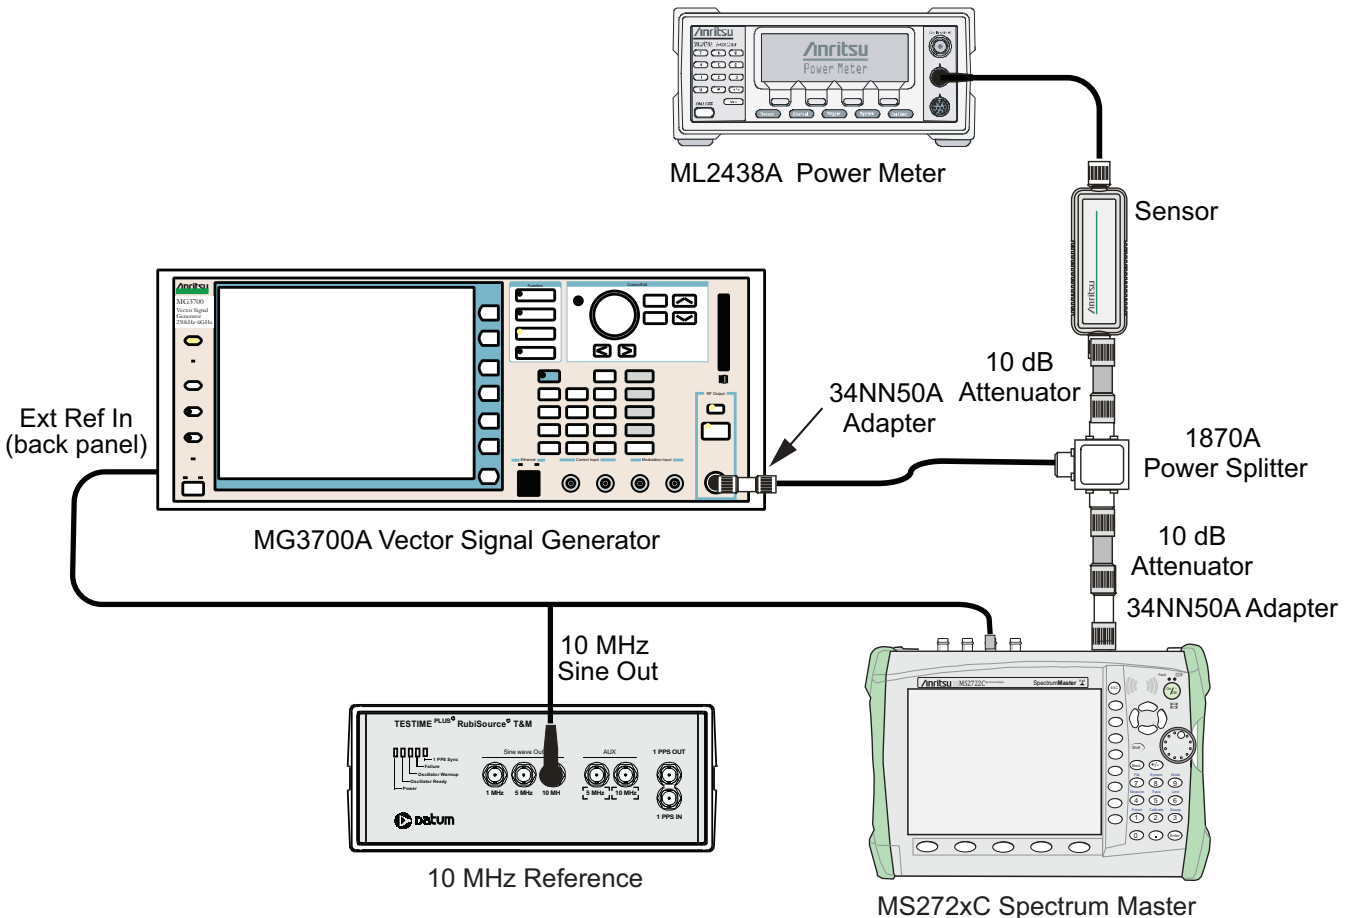

Figure 3-6. WCDMA Occupied Bandwidth, Test Setup
3. Connect the MG3700A, splitter, attenuator, power meter, and sensor as shown in Figure 3-6.
4. Press the **On/Off** key to turn on the MS272xC and wait until the measurement display appears. Then press the **Shift** key then press the **Mode** (9) key to activate the mode selection menu.
6. Press the **Shift** key, the **Preset** (1) key, and then the **Preset** submenu key.
4. Press the **On/Off** key to turn on the MS272xC and wait until the measurement display appears. Then press the **Shift** key, and then press the **Mode** (9) key to activate the mode selection menu.
6. Press the **Shift** key, the **Preset** (1) key, and then the Preset submenu key.